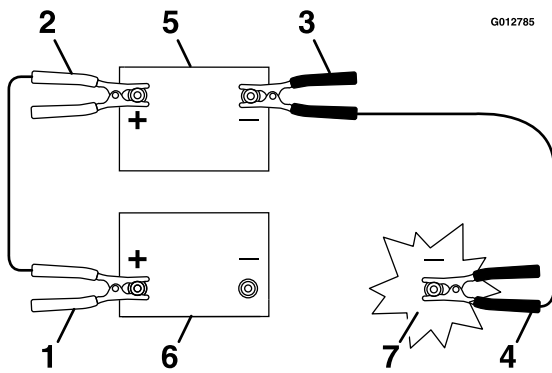

Figure 64
3. Connect the positive (+) cable to the positive (+) terminal of the discharged battery that is wired to the starter or solenoid as shown in Figure 64.